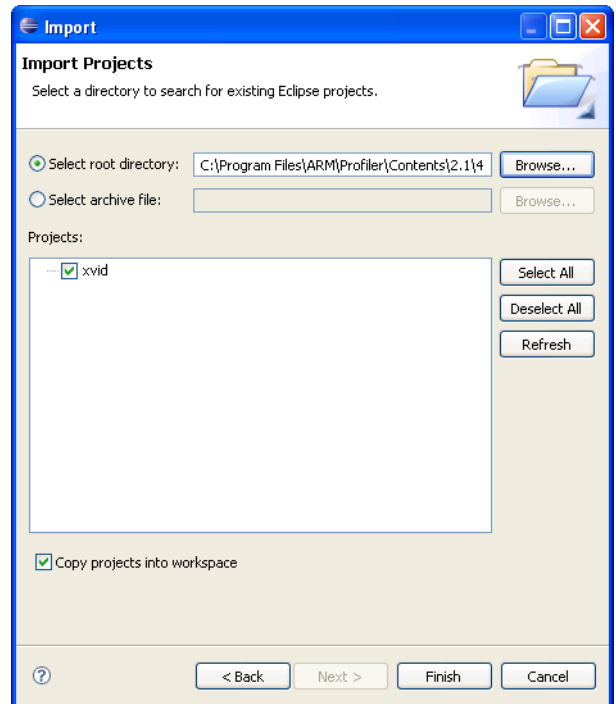

Figure 2-6 The updated Import dialog
6. Select the xvid folder in the hierarchy and press **OK**. This closes the window and returns you to an updated **Import** dialog, as pictured in Figure 2-6.